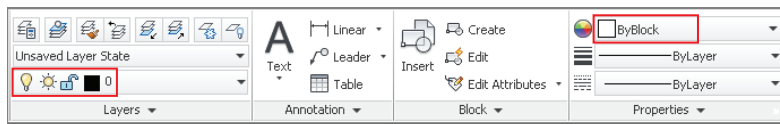

FIGURE 7.22 Investigating the layer assignment and object properties of an exploded block
3. Select the parts of the chair, and observe in the Layers panel that the objects are on layer 0 and in the Properties panel that their color is set to ByBlock (see Figure 7.22). Press Esc to deselect.